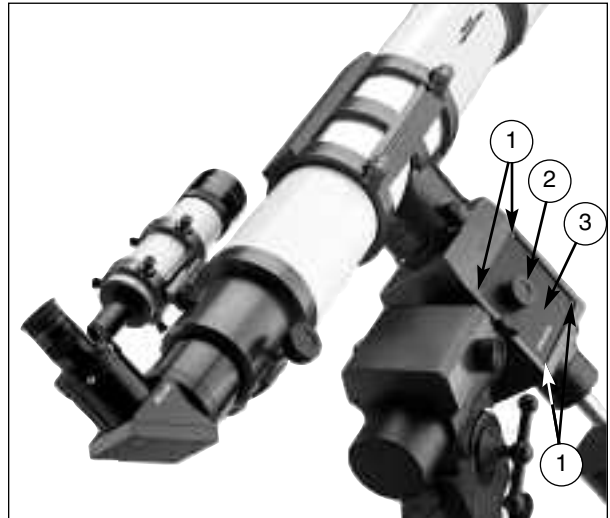

Fig. 2 Installing the Printed Circuit Boards. (1) Phillips-Head Screws; (2) Declination Slow-Motion Knob; (3) Cover Plate.
1. On the LXD Equatorial Mount, remove the rubber knurling on the Declination slow-motion knob (2), Fig. 2, and remove this knob by loosening the hex set screw.
2. Remove the four screws (1), Fig. 2, holding the cover plate (3), Fig. 2, on the Declination slow-motion knob side of the mount. Discard this cover plate.
6. Place the Driver PCB into the Declination housing and replace the four Phillips-head screws, (1), Fig. 2, to hold the new cover plate in place.
7. Replace the Declination slow-motion knob (2), Fig. 2. Lock in place by tightening the set screw, and replace the rubber knurling.